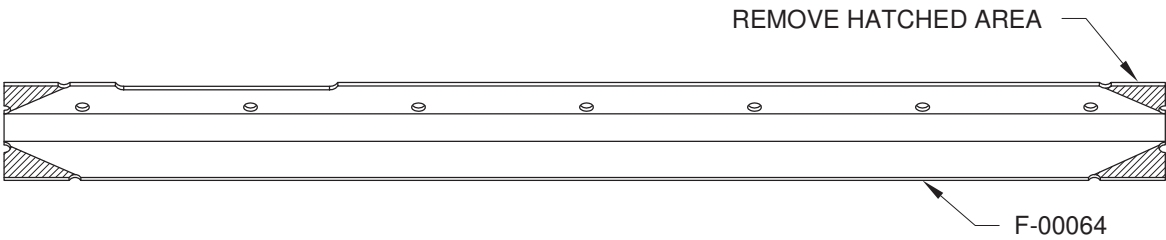

FIGURE 1: PREPARING THE STIFFENER
Step 1: Remove the hatched areas shown in Figure 1 from the F-00064 Stiffener.